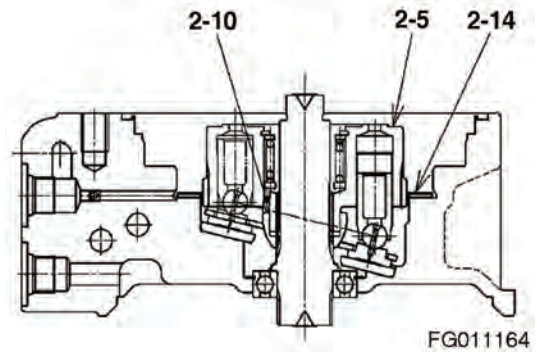

Figure 61
14. Apply grease to back of thrust plate (2-14, Figure 61) and assemble it.
15. Assemble cylinder block (2-5, Figure 61) and other associated parts.
During assembly, be sure that pin (2-10, Figure 61) will not come out.
*2: The disk (2-14, Figure 61) is assembled only for parking brake spec. only.